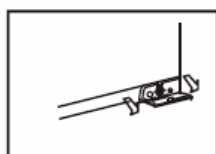

Fig1
- 1) Push out the outer cover (Fig. 1);